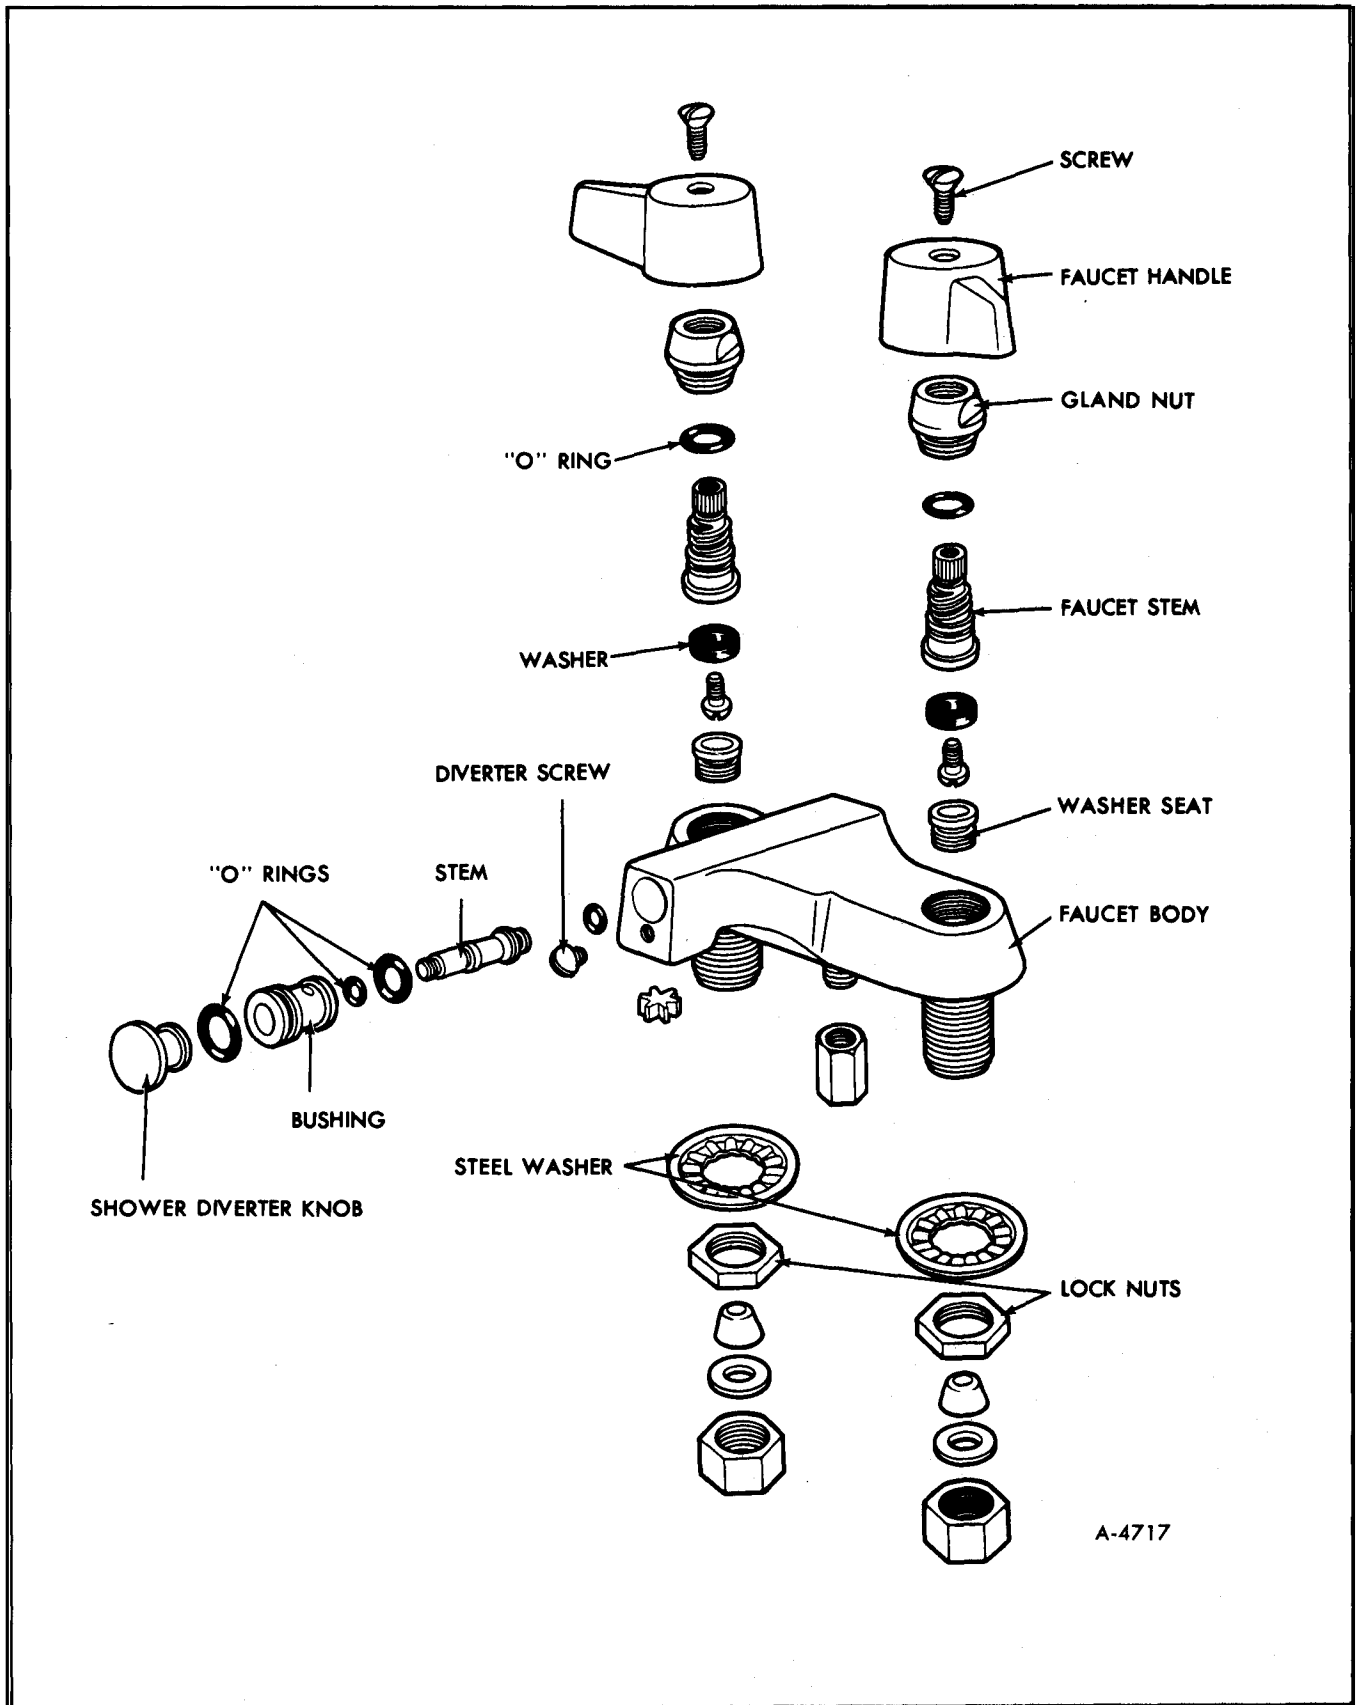

Figure 44—Bathroom Sink Faucet Assembly
3. Remove lock nuts as shown in Figure 44. Remove steel and fiber washers.
FAUCET WASHERS (FIGURE 44)
SHOWER DIVERTER ASSEMBLY (FIGURE 44)